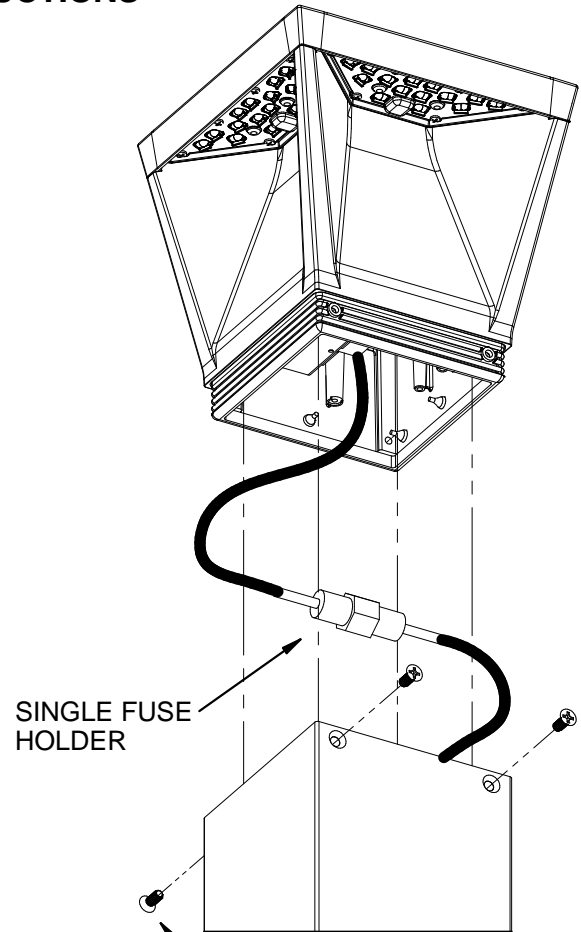

FIGURE 9
- Both versions require the removal of the Top Assembly. Remove the four 1/4-20 Flat Head Screws located at the top of the post just under the Top Assembly (Fig.9). Both types of fuse holders are accessed this way.
- The **single fuseholder** is located on the wiring bundle. Locate this fuseholder (Fig 9) and unscrew the fuse holder halves. Inspect and replace the fuses as needed with fuses of identical type and rating.